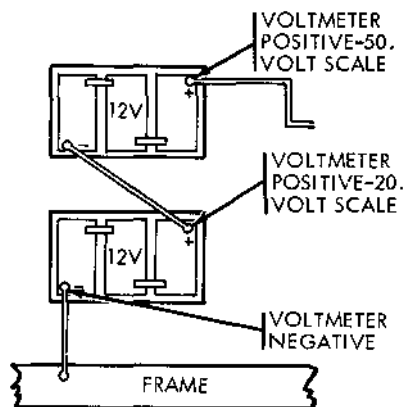

Figure 2-11. Battery voltage test.
(2) *Battery voltage test (fig. 2-11).* Using a voltmeter, select the 50-volt scale and check the voltage charge status. Individual battery voltage must not be less than 11 volts or more than 13 volts.